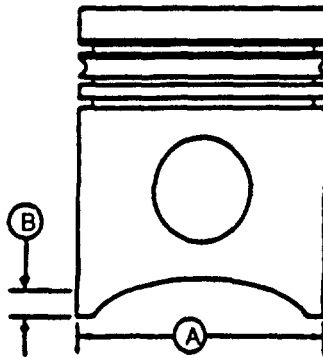

**FIGURE 3-132. Inspecting Cylinder Liner for Cracks**
- s. Carefully examine cylinder liner for signs of fatigue, such as fine cracks in flange area (A, FIGURE 3-132) and cracks in the ring travel area (B). If any defects are found, replace the piston and liner. If no defects are found, proceed to next step. If pistons and liners have passed all previous checks, proceed to check both for proper specifications, listed in steps t and u.